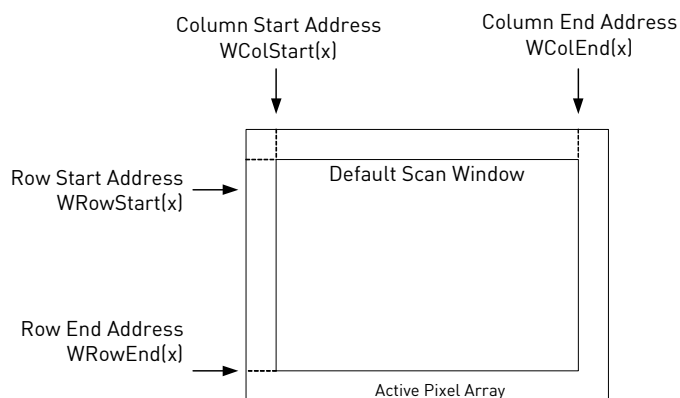

Figure 13: Default Active Window
- By default the “Scan Window” is optically centered with a size of 750 columns by 480 rows as shown in Figure 13. (This yields a 1/3” optical format)